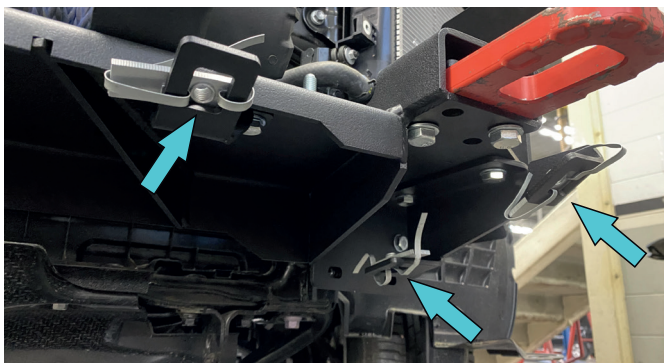

Fig.33
33. Install insert nuts M10 with cable (item C) into holes of brackets (item 10-13) as shown in fig.33, on both sides of the vehicle.